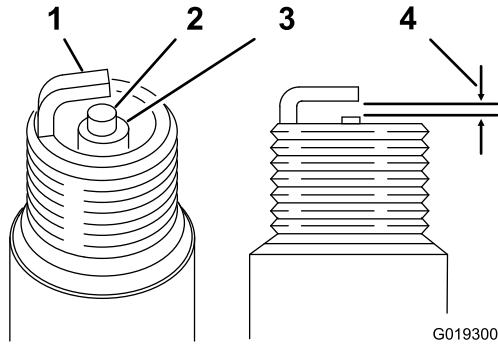

Figure 47
1. Look at the center of the spark plug (Figure 47). If you see light brown or gray on the insulator, the engine is operating properly.
2. Use a gapping tool for spark plugs or a feeler gauge to measure the gap between the side electrode and center electrode (Figure 47).